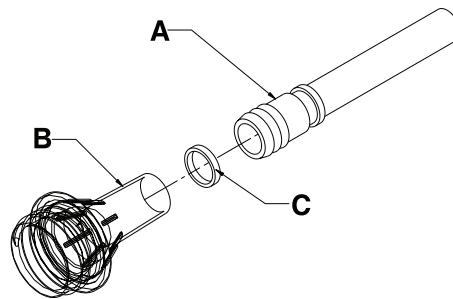

Figure 4: Reduction coupler fitting
4. Using the diagonal pliers, carefully cut the cable tie (C) closest to the foot end of the mattress cover that secures the LAL hose and reduction coupler fitting (A) to the valve body (B) (Figure 4 on page 17).
5. Using the diagonal pliers, carefully cut the cable tie (C) closest to the foot end of the mattress cover that secures the LAL hose and reduction coupler fitting (A) to the valve body (C) (Figure 4 on page 17).